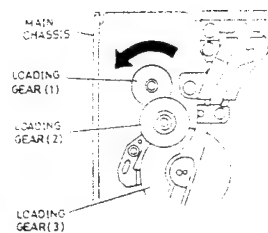

Fig. 2-17
If the defect is in the loading motor, remove it and then turn loading gear (1) in the direction of the arrow. Unloading can be done manually. (See Fig. 2-17)